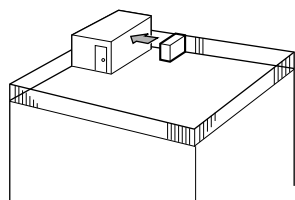

Fig. 2-3
- (1) Face the air outlet towards the nearest available wall about 50 cm away from the wall. (Fig. 2-3)